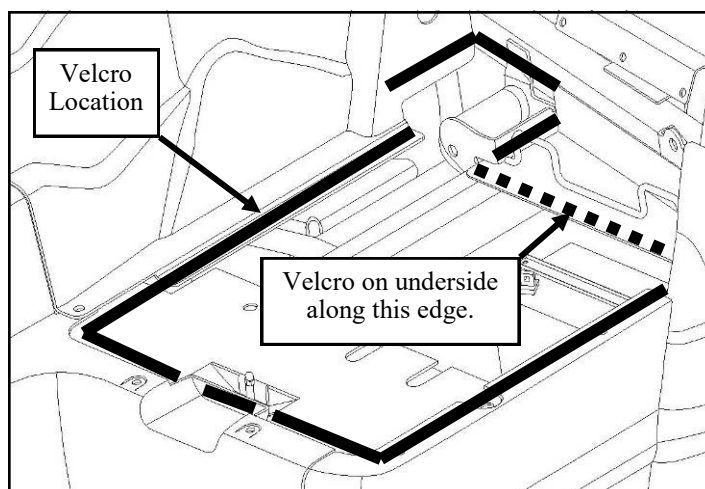
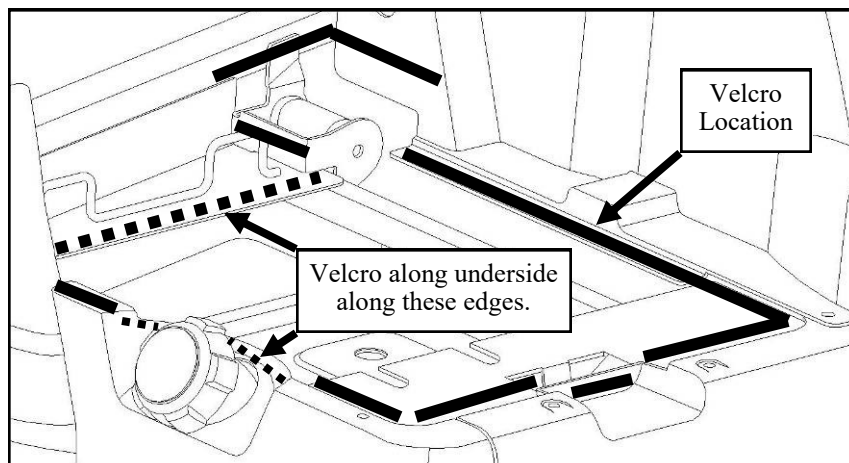

Figure 4.5 Driver's Side Vinyl Dust Barrier
Figure 4.6 Passenger Side Vinyl Dust Barrier
4.5 The two other vinyl panels are dust barriers for under the seats. Use the vinyl barriers as a guide for proper positioning of the Velcro. See Figures 4.5 and 4.6. The seat latching pin should protrude through the hole in the vinyl. The passenger barrier has a half round cutout for around the fuel cap as seen in figure 4.6.